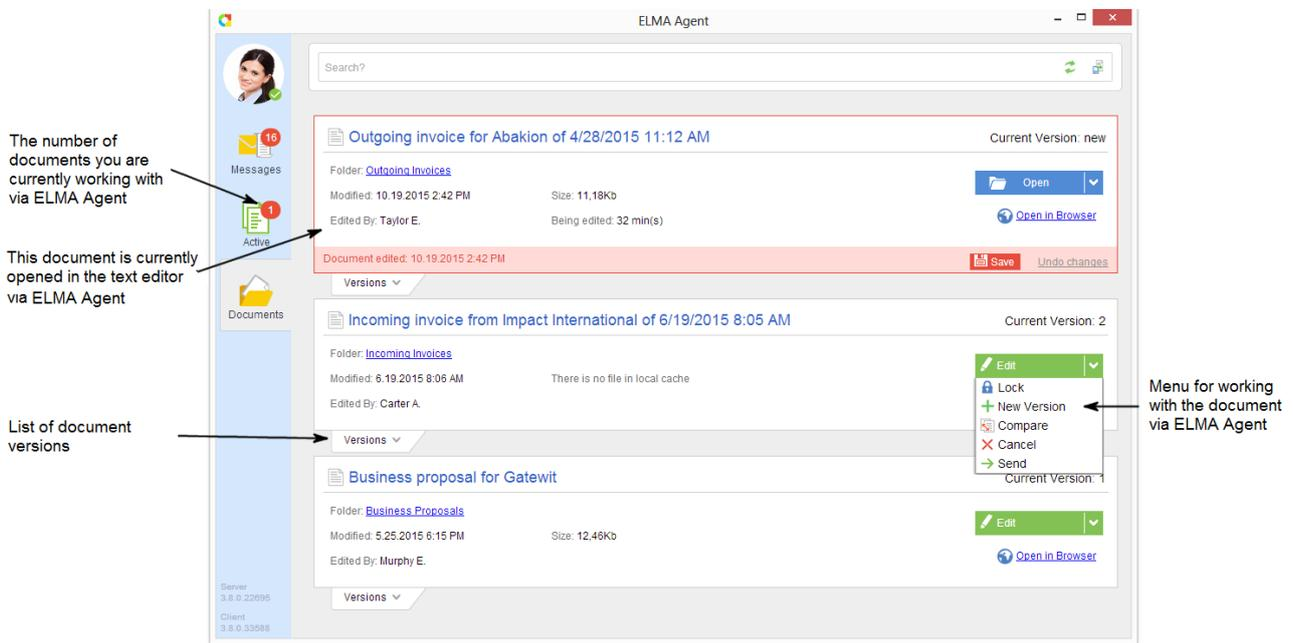

Fig. 240. The Working Documents tab of ELMA Agent
- **Active** tab shows the list of all the currently open documents (Fig. 240).